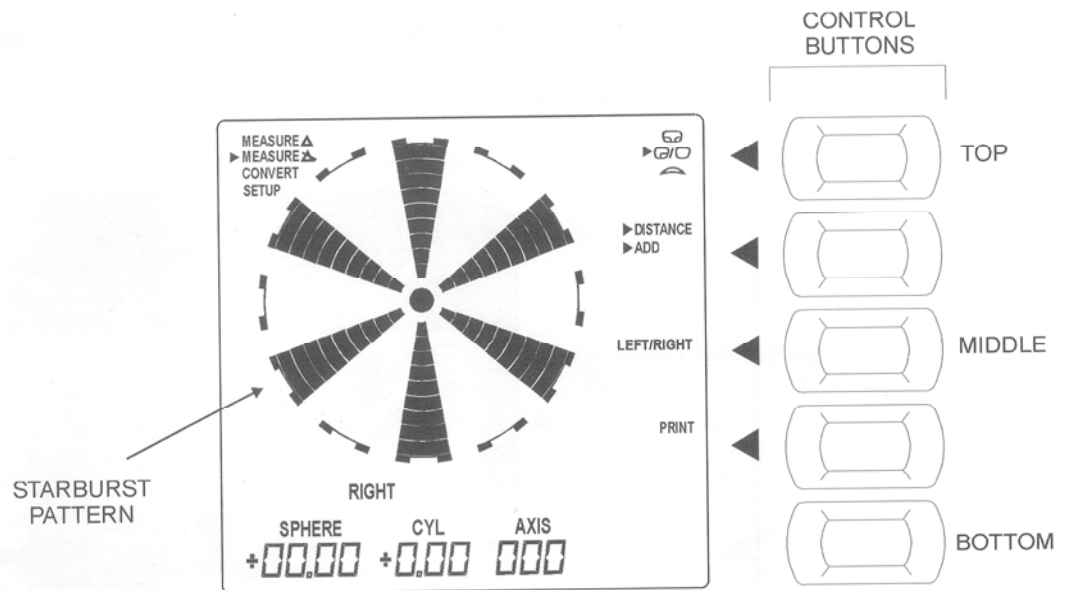

Figure 2 - Starburst
2. When the LensChek starts to operate, a self-calibration procedure is initiated. This procedure begins with a counterclockwise revolving pattern that counts down from 19 to zero and ends in a "starburst" pattern. When the "Starburst" pattern is displayed, the LensChek has finished the self-calibration procedure and is ready for use. To manually initiate a self-calibration procedure, simultaneously depress the top (blue) and middle (blue) control buttons. Refer to Figure 2 for an illustration of a "Starburst" pattern and the location of the top and middle control buttons.
To activate this function, simultaneously depress the top (blue) and middle (blue) control buttons. The Sphere will count from 19, down to zero and then the display will indicate the Starburst pattern (refer to Figure 2, for an illustration of the Starburst). After the Starburst pattern is displayed, the LensChek defaults to the Measure - No Prism mode and uses the set default parameters. If a special Setup function was used, it may have to be reset if the unit was unplugged for an extended period of time.